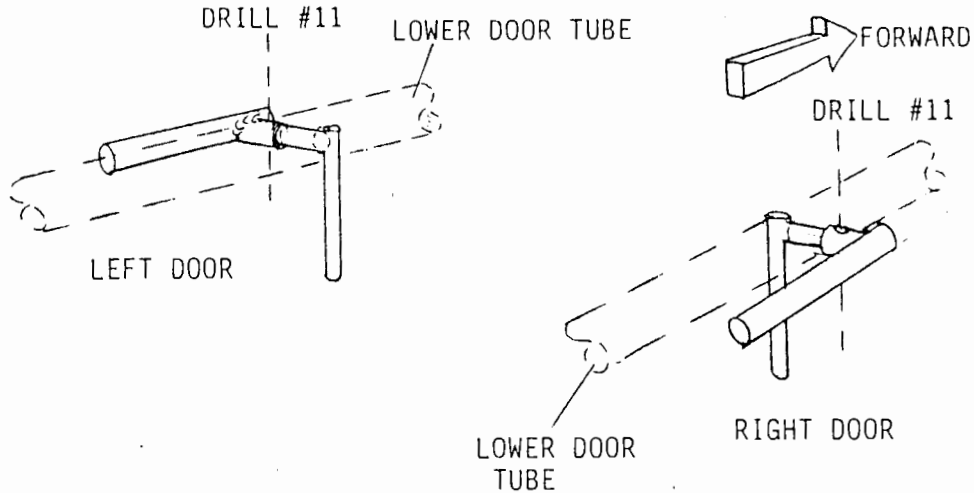
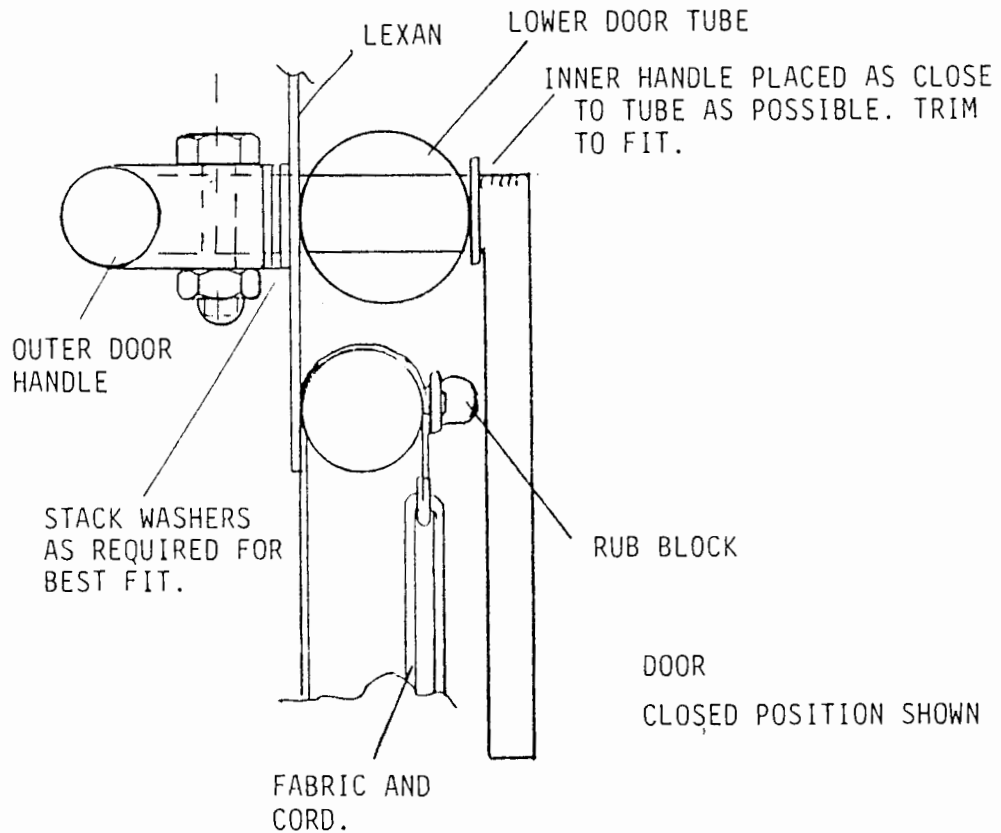

FIGURE 012-017
FIGURE 012-017A
17. Install the doors to the covered fuselage. Assemble the door handles to each side. Refer to Figure 012-017 for proper handle orientation prior to drilling bolt holes. Refer to Figure 012-017A for proper spacing.